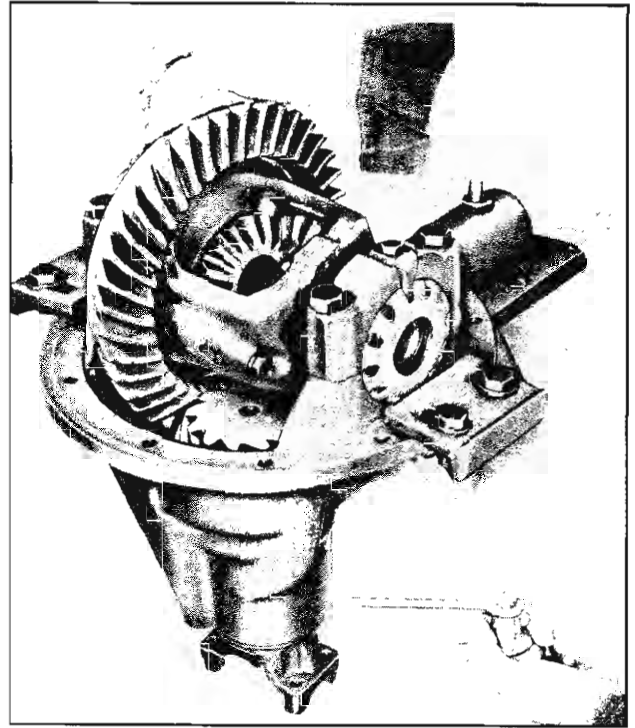
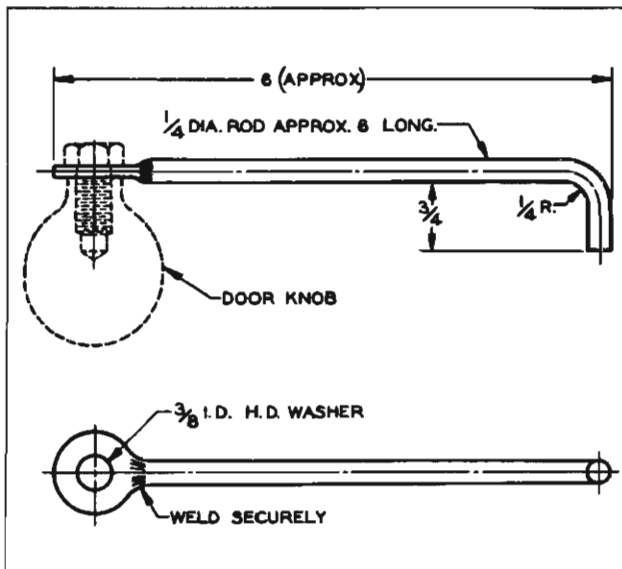

Fig. 4-24 Checking Tooth Contact Pattern
Fig. 4-23 Differential Cranking Tool
3. Insert crank (Fig. 4-23) in companion flange and, while turning, apply pressure to back side of ring gear with hand (Fig. 4-24). A test made without loading the gears will not give a satisfactory pattern.